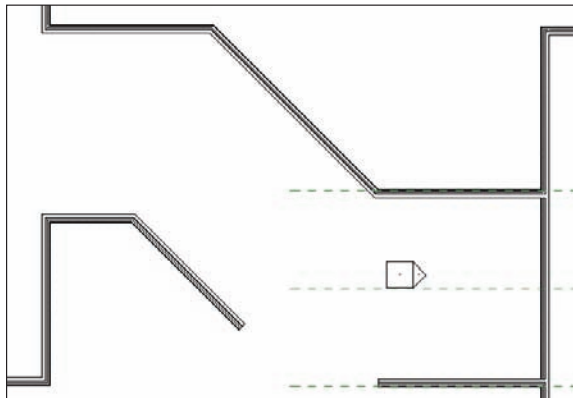

FIGURE 2.13 Creating the bottom of the corridor
5. Repeat the procedure for the angled wall. Make sure you offset the wall to the left (see Figure 2.13).